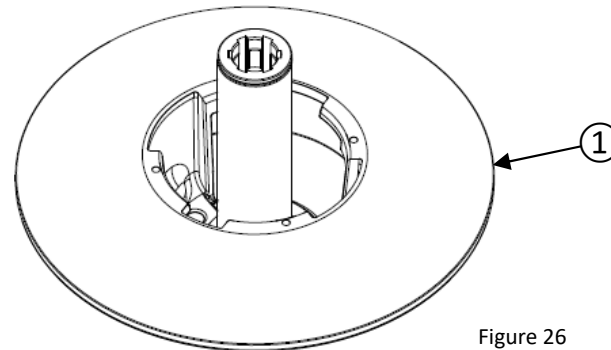

Figure 26
The shaft cannot be disassembled from the fixed sheave ① (figure 26).